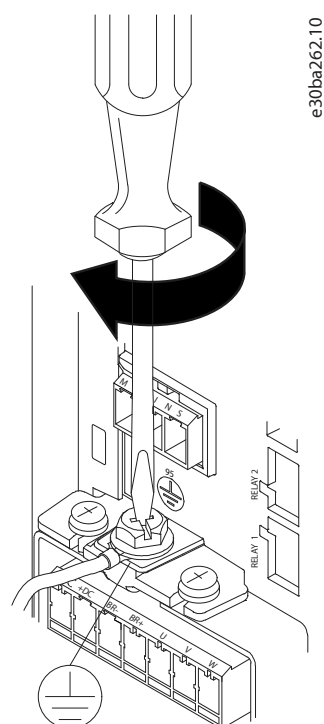

Figure 57: Mounting the Ground Cable
2. Mount the ground cable as shown in Figure 57.